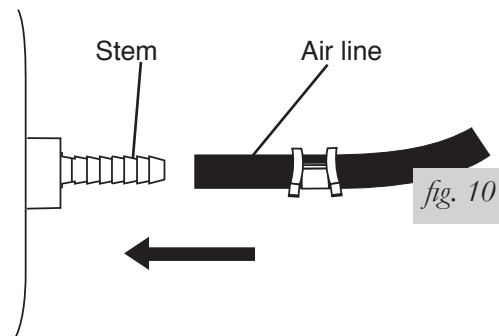

fig. 10
6. Push the air line onto the stem, covering all the barbs (fig. 10). With the pliers, slide the air line clamp upward until it fully covers the barbed section.
5. Push the air line onto the stem, covering all the barbed section (see fig. 10). With pliers slide the air line clamp forward until it fully covers barbed section.